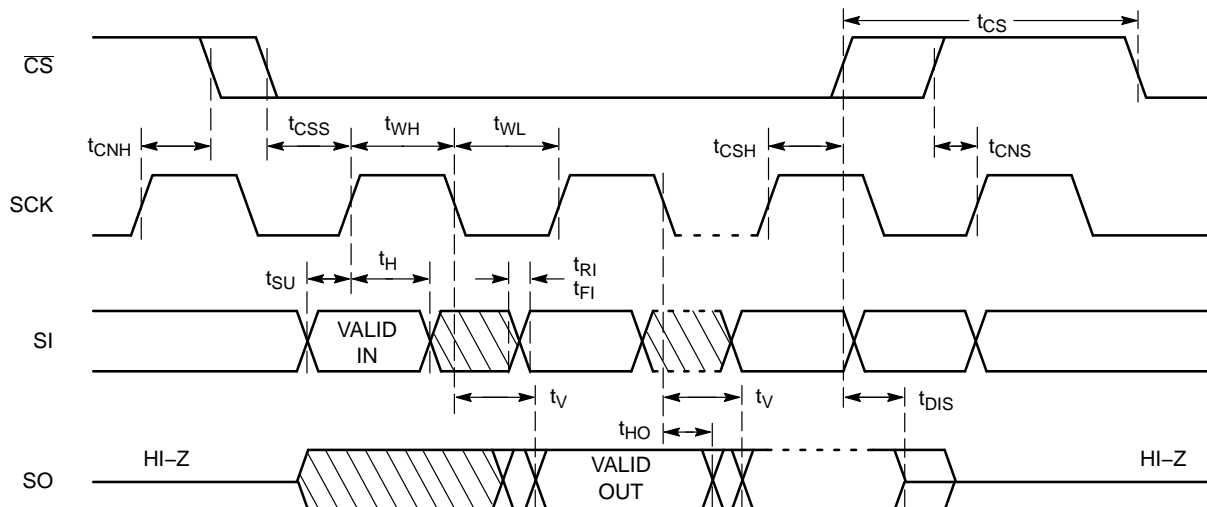

Figure 2. Synchronous Data Timing
8. **All Chip Select (CS) timing parameters are defined relative to the positive clock edge (Figure 2). t_{CSH} timing specification is valid for die revision D and higher. The die revision D is identified by letter "D" or a dedicated marking code on top of the package. For previous product revision (Rev. C) the t_{CSH} is defined relative to the negative clock edge (please refer to data sheet Doc. No. MD-1006 Rev. U)**
After a high to low transition on the $\overline{\text{CS}}$ input pin, the CAT25010/20/40 will accept any one of the six instruction op-codes listed in Table 9 and will ignore all other possible 8-bit combinations. The communication protocol follows the timing from Figure 2.